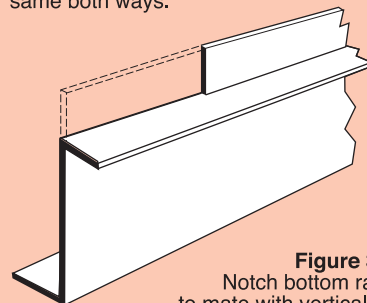

Figure 3.
7. Using a skill saw or snips, notch the aluminum bottom rail for mating with the vertical rails, as shown in Figure 3. Attach the aluminum bottom rail to the 2" x 6" bottom girt with nails driven up through the bottom and above the stiffener.